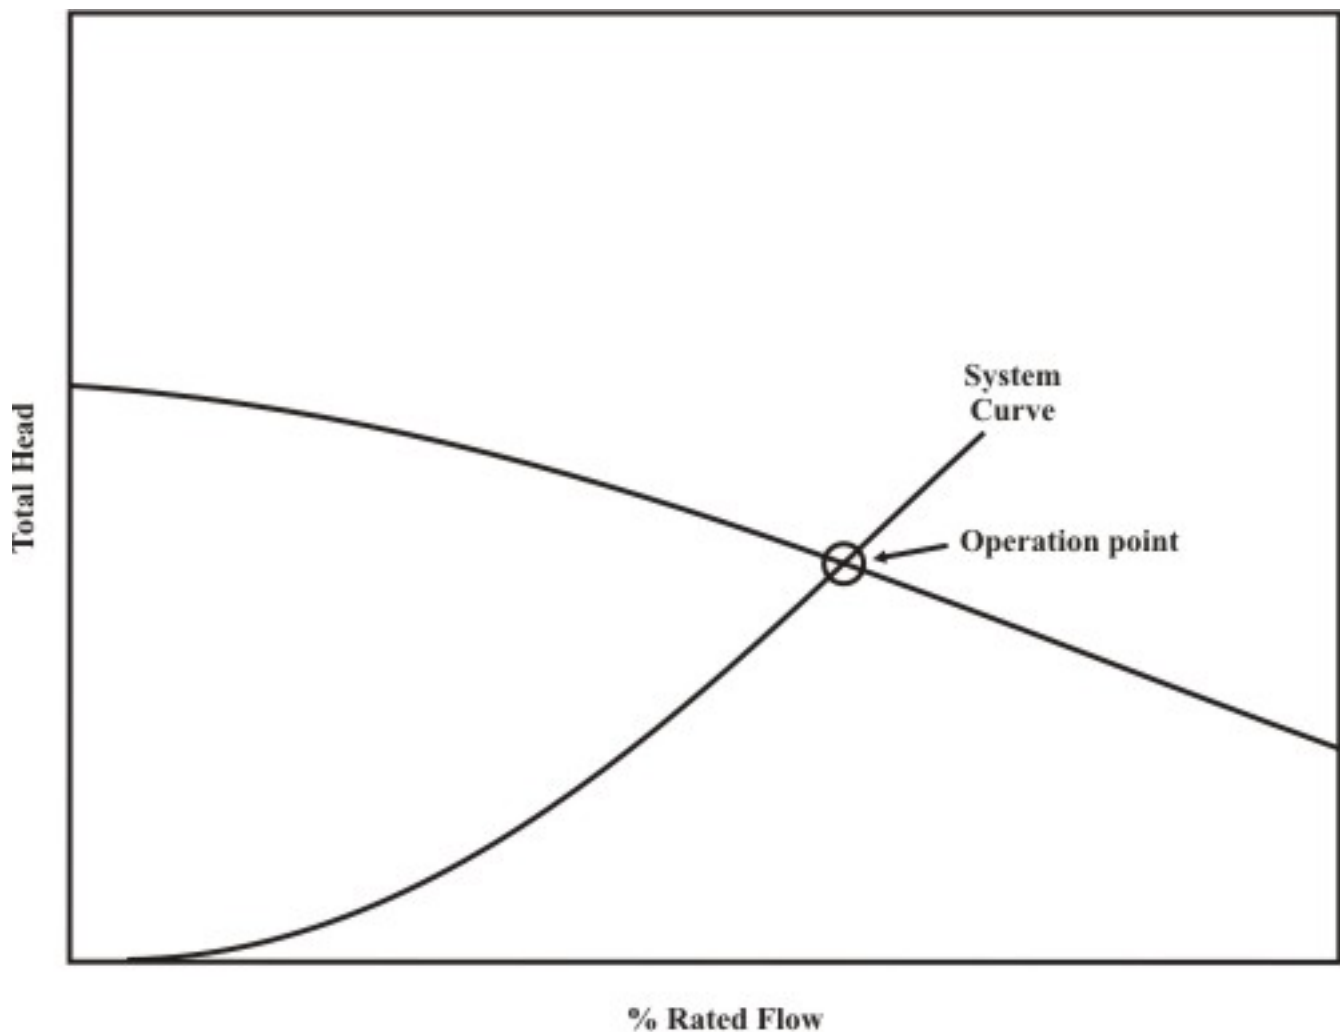

Fig. 31.8 Pump and System Curves.
- A. Can you identify, which of three system curves shown in Figure 31.8 correspond to the minimum speed of the pump?
Fig. 31.8 again shows two independent curves. One is the pump curve which is solely a function of the physical characteristics of the pump. The other curve is the system curve. This curve is completely dependent on the size of pipe, the length of pipe, the number and location of elbows, etc.
A. Can you identify, which of three system curves shown in Fig. 31.8 correspond to the maximum speed of the pump?
B. Assume that the pressure-flow curve C shown in Fig. 31.8 represent the characteristics of the output element of the system. Then,